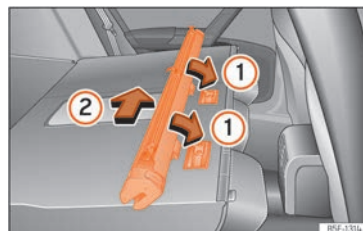

Fig. 143 Assembling the net partition in the rear seat backrests.
- Place the net casing in the rail slots in the direction of the arrows »» Fig. 143 ①.
- Push the casing towards the left side of the vehicle in the direction of arrow »» Fig. 143 ② and as far as it will go.
- Pull the net casing out approximately 5 cm in the opposite direction to the arrow »» Fig. 143 ②.
- Remove the casing from the rails by pulling in the opposite direction to the arrows »» Fig. 143 ①.